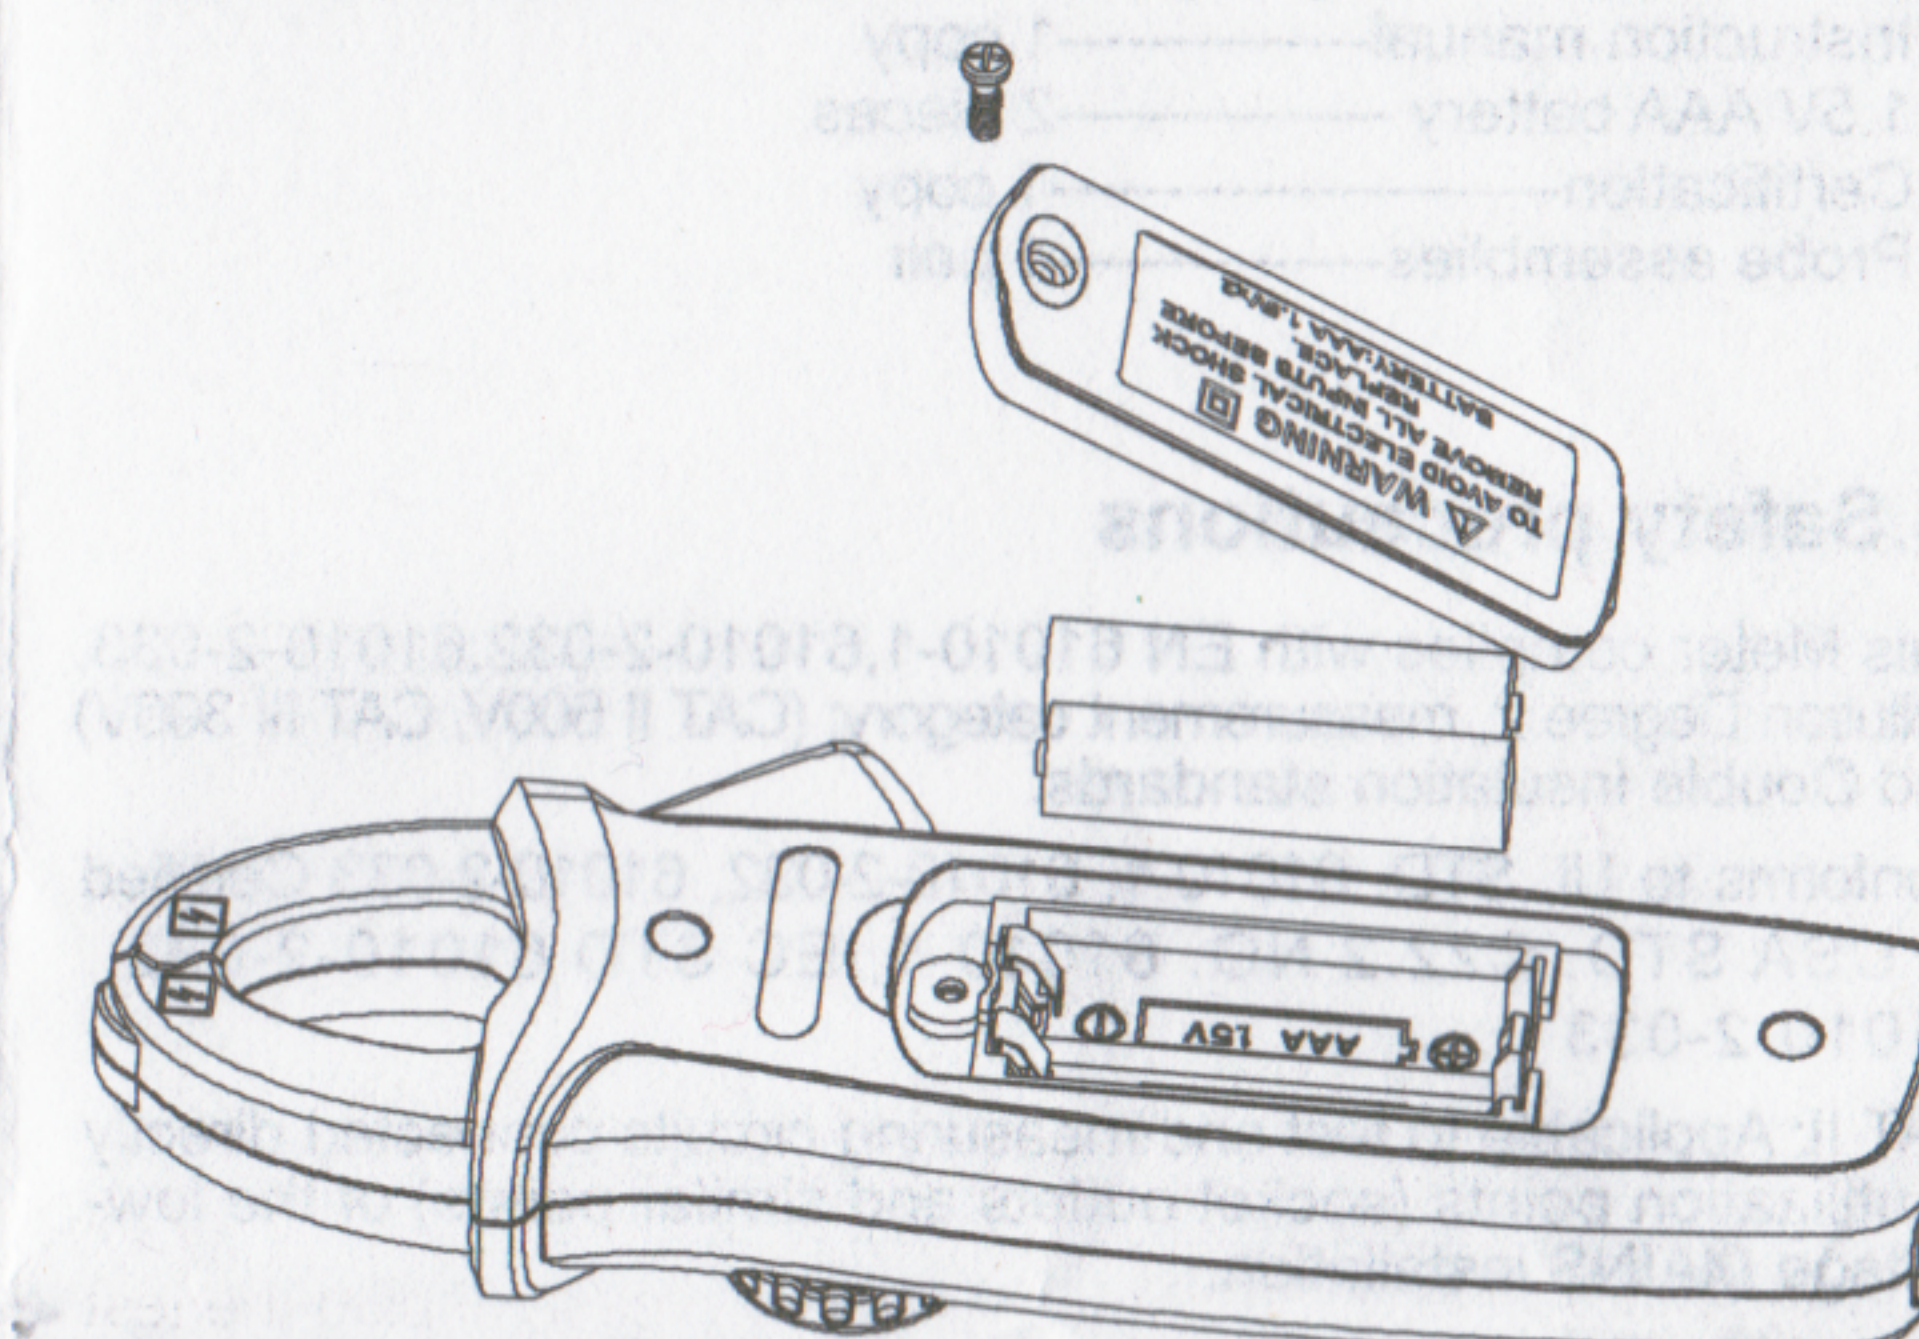

Figure 8
2.Replace battery (see Figure 8)